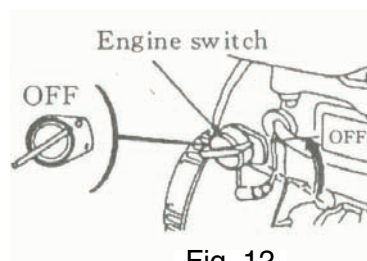

Fig. 12
2. Push the engine switch to the OFF position (Fig. 12).